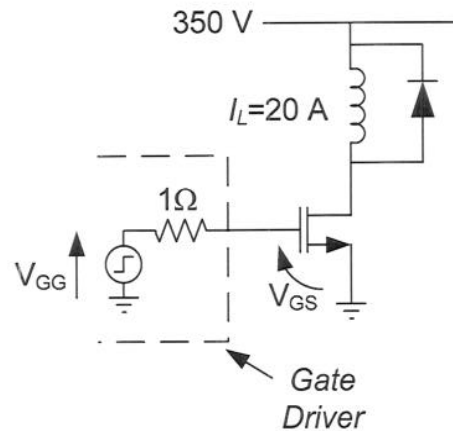
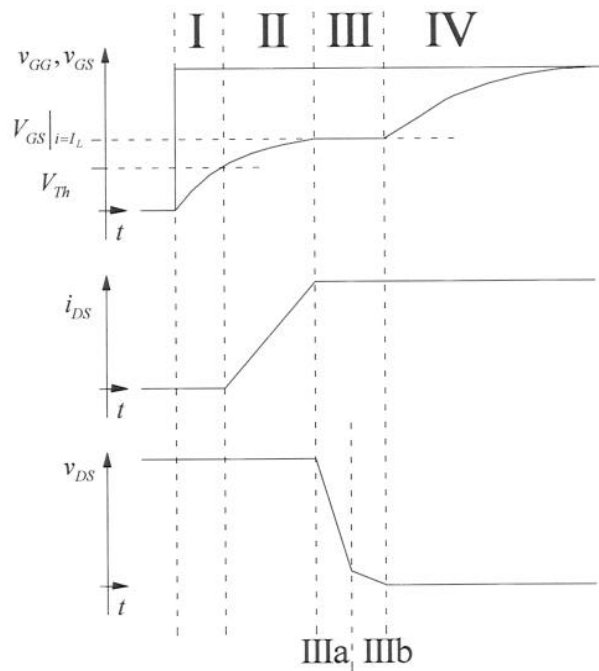

Figure Q3.1 MOSFET switching a diode clamped inductive load
Figure Q3.2 MOSFET switching waveforms
3. This question concerns the operation of power semiconductor devices used in the circuit shown in figure Q3.1.
- a) You are required to design a diode for use in the circuit of Figure Q3.1.
- b) The switching waveforms of the MOSFET shown in Figure Q3.1 are shown below in Figure Q3.2.
- i) Explain the operation of the circuit during the turn on process (the periods I to IV in figure Q3.2). [8]